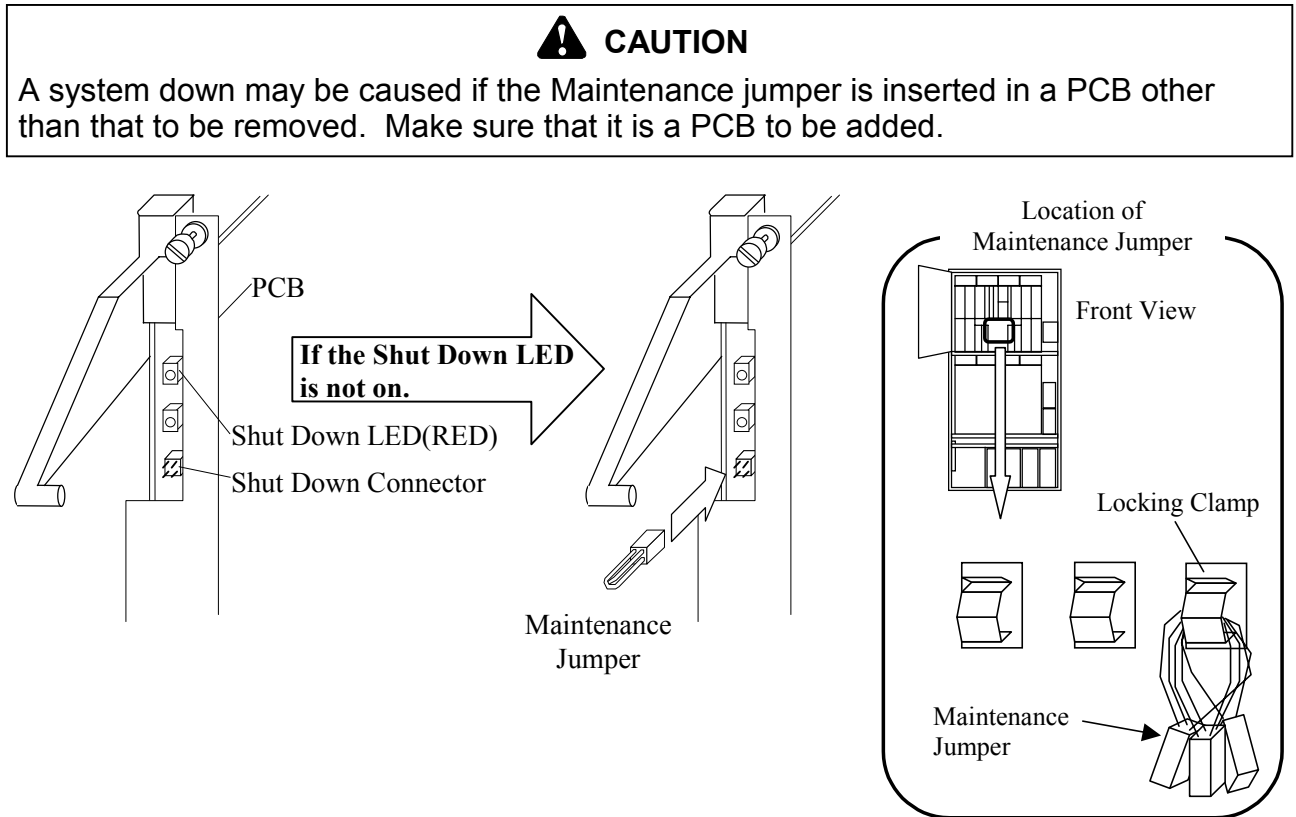

Fig. 3.7.1-4 Location of the Shut Down LED
- a. While referring to Fig. 3.7.1-4 and Table 3.7.1-6, check the Shut Down LED on the Cache Memory PCB in the Front Logic Box. Connect the Maintenance Jumper to the Shut Down Connector if the Shut Down LED is not on. (This procedure [4-1. a.] is not valid for a New Installation.)